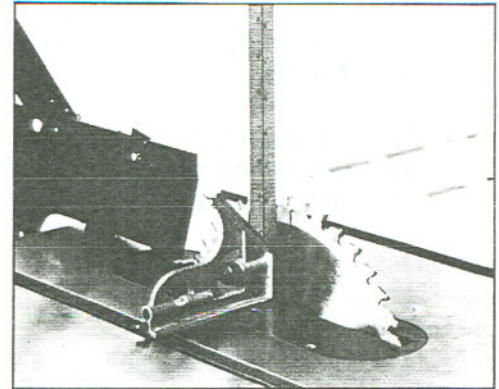

Fig. 31
4. Place a square on the table and check to see that the blade is at a 90° angle to the table. (Fig. 31) Make sure square is not touching a blade tooth.